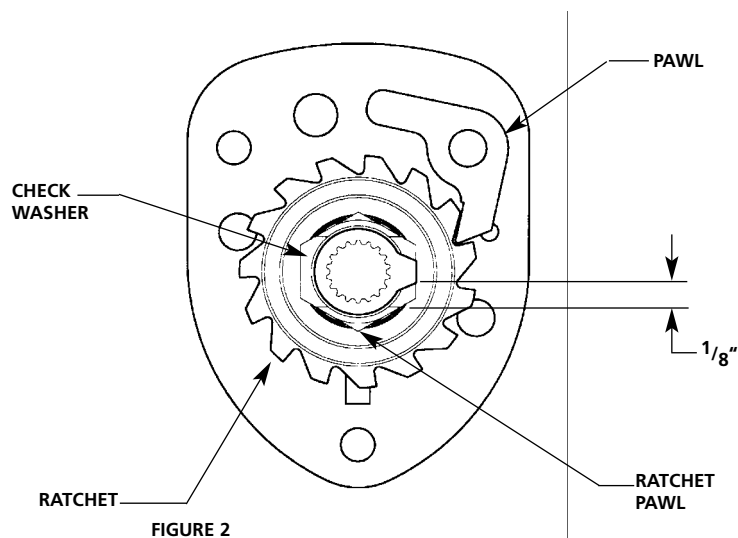

FIGURE 2
1. The pawl must engage the teeth of the ratchet as shown in Figure 2.
2. The check washer must be positioned on the ratchet hub as shown in Figure 2.